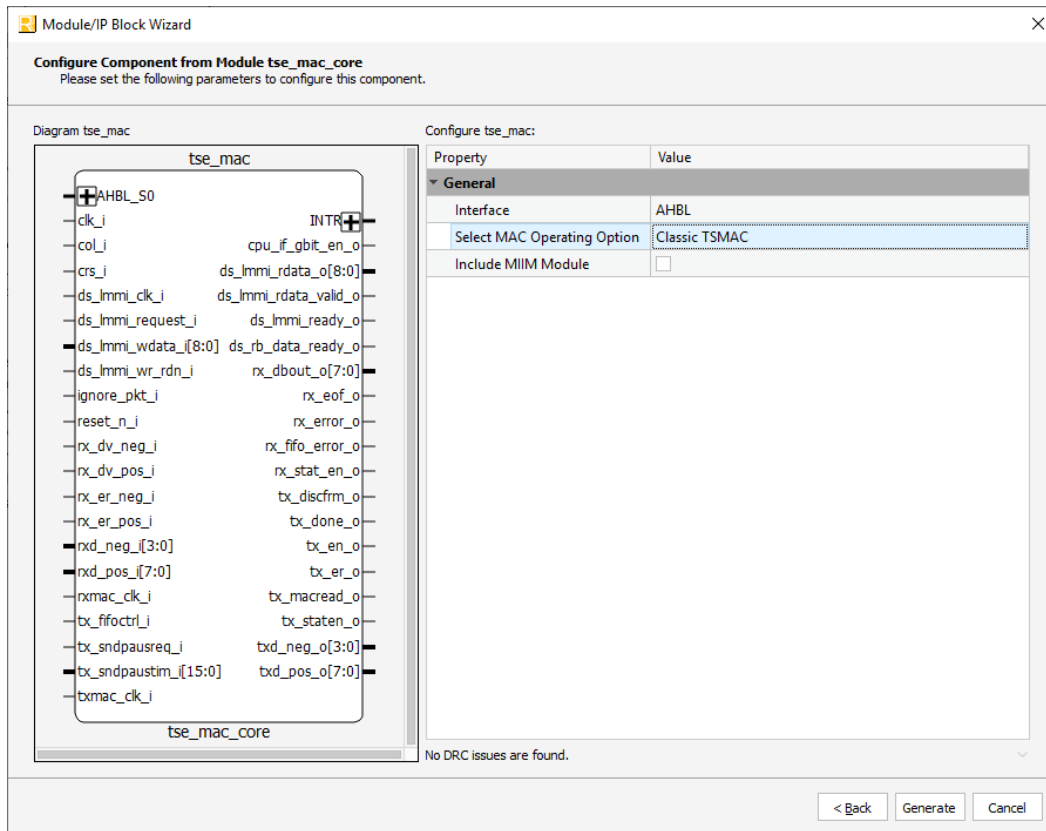

Figure 3-2. Configure User Interface of TSEMAC IP Core
3. In the module’s dialog box of the **Module/IP Block Wizard** window, customize the selected TSEMAC IP Core. As a sample configuration, see Figure 3-2. For configuration options, see the Attribute Summary section.